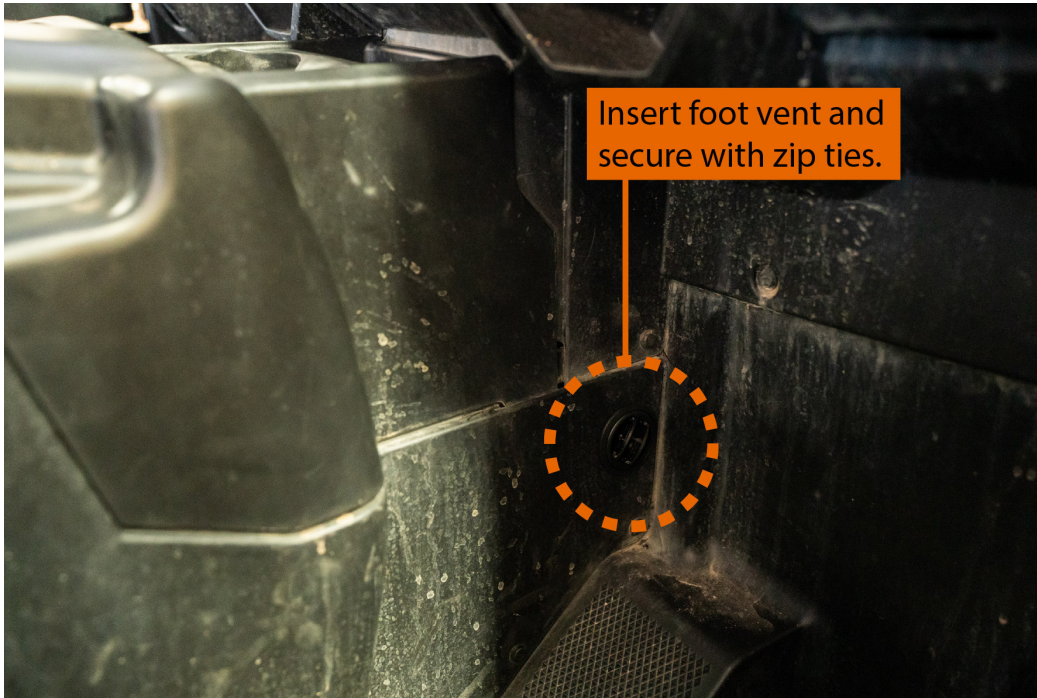

FIGURE 9
41. Insert a vent and secure the duct hose with zip ties. FIGURE 9